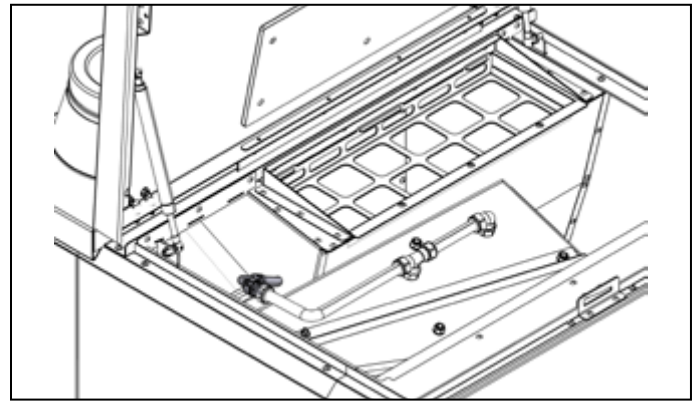

Figure 12-2: Wash system connection
- Disconnect the water supply hose from the wash system. Refer to Figure 12-2.
- Re-connect water supply hose to connection on wash system manifold. Refer to Figure 12-2.